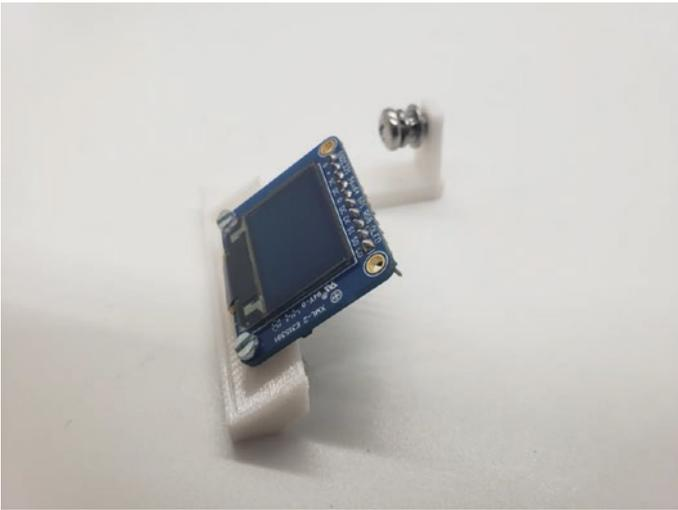

Figure 8-47. *Attach the LCD to the LCD mount*
8. Attach the LCD to the LCD mount using two M2 12mm screws and two M2 nuts. See Figure 8-47.